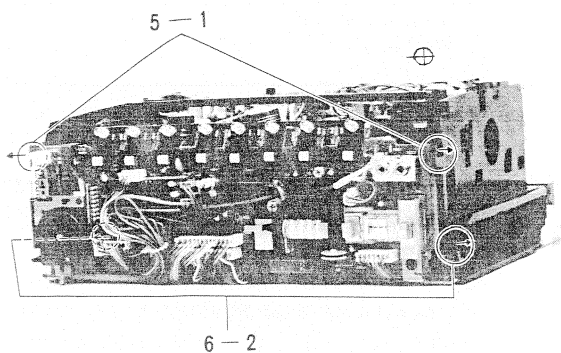

Fig. 24
5. System control PC Board/operation switch PC Board (Fig. 24)
6. Servo PC Board/Luminance/Chroma PC Board (Fig. 24)